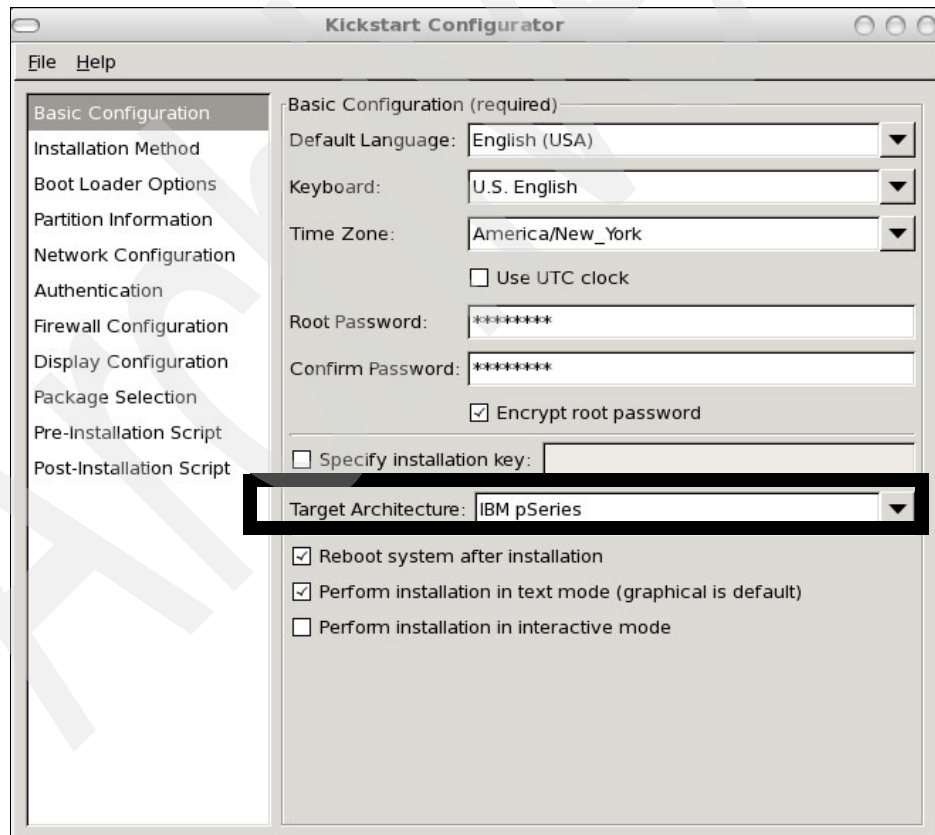

Figure B-1 Kickstart main window with Basic Configuration panel (©2008 Red Hat, Inc.)
2. A window opens showing the Basic Configuration panel. The most important configuration setting is the Target Architecture setting highlighted with a rectangle in Figure B-1. It is also important to define a root password to enable SSH login after installation. This password is encrypted in the configuration file.